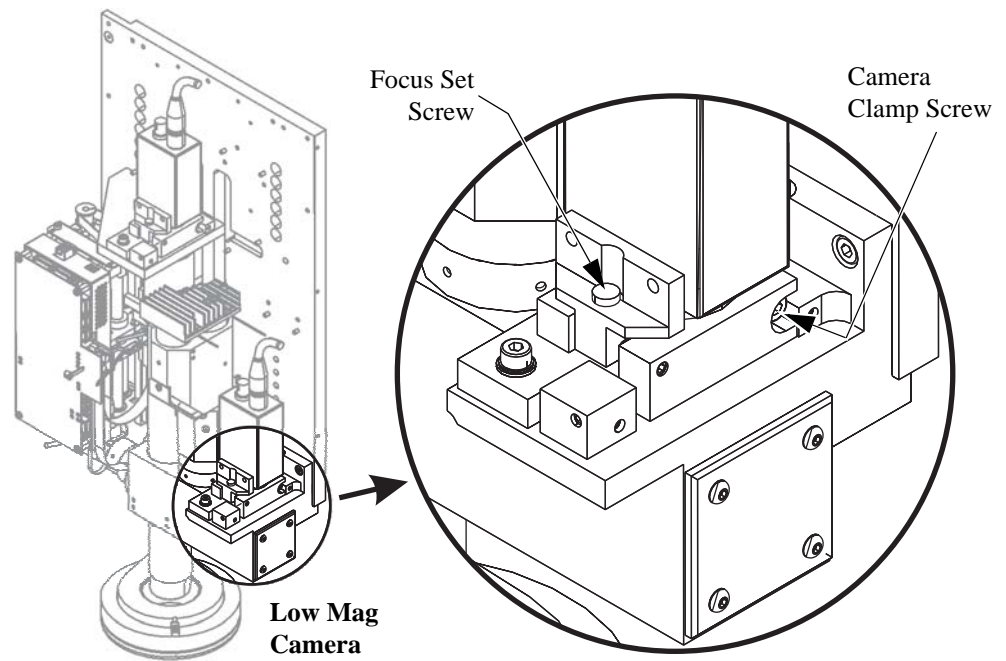

Figure 8-7 Low Mag Camera Focus Adjustment
15. Loosen the Low Mag camera clamp and adjust the focus set screw shown in Figure 8-7. Re-tighten the camera clamp when finished.